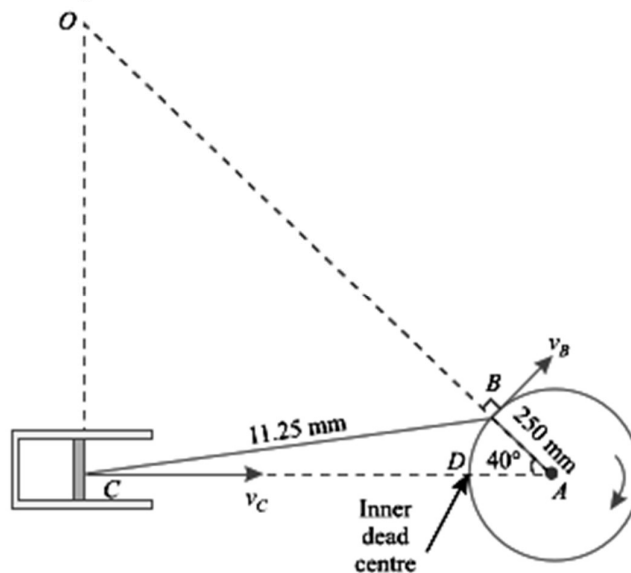

Figure 2
Q.3 In a reciprocating pump, the lengths of connecting rod and crank is 1125 mm and 250 mm respectively. The crank is rotating at 420 r.p.m. Find the velocity, with which the piston will move, when the crank has turned through an angle of  $40^\circ$  from inner dead centre as shown in Figure 2